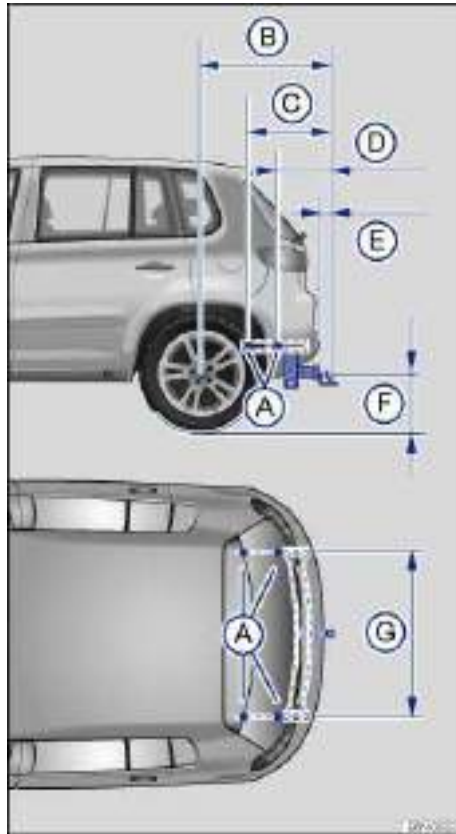

Fig. 110 Dimensions and attachment points for retrofitting a trailer hitch.
⇒ fig. 110 (F) be less than the specified minimum. This minimum height must be present even when the vehicle is fully loaded and subject to the maximum tongue weight.